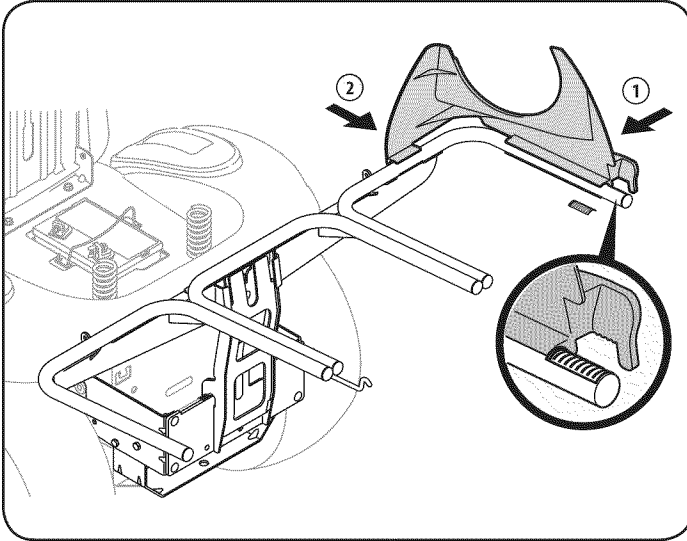

Figure 9
1. Snap the upper chute support in place by first clipping the side portion onto the bin support rail. Align the edge of the snap feature with the red line (1), as shown in the inset of Fig. 9.
2. Snap the front portion of the upper chute support to the bin support rail as seen in 2 of Fig. 9.